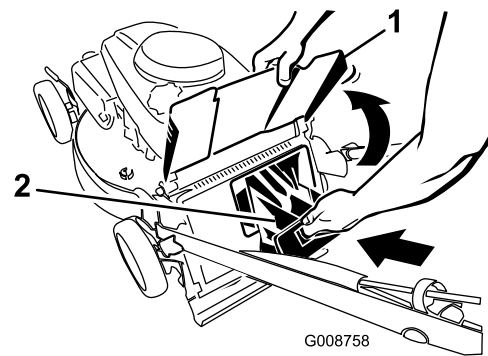

Figure 17
2. Lift the discharge deflector and insert the mulch plug into the opening at the rear of the mower housing until it snaps into place (Figure 17).